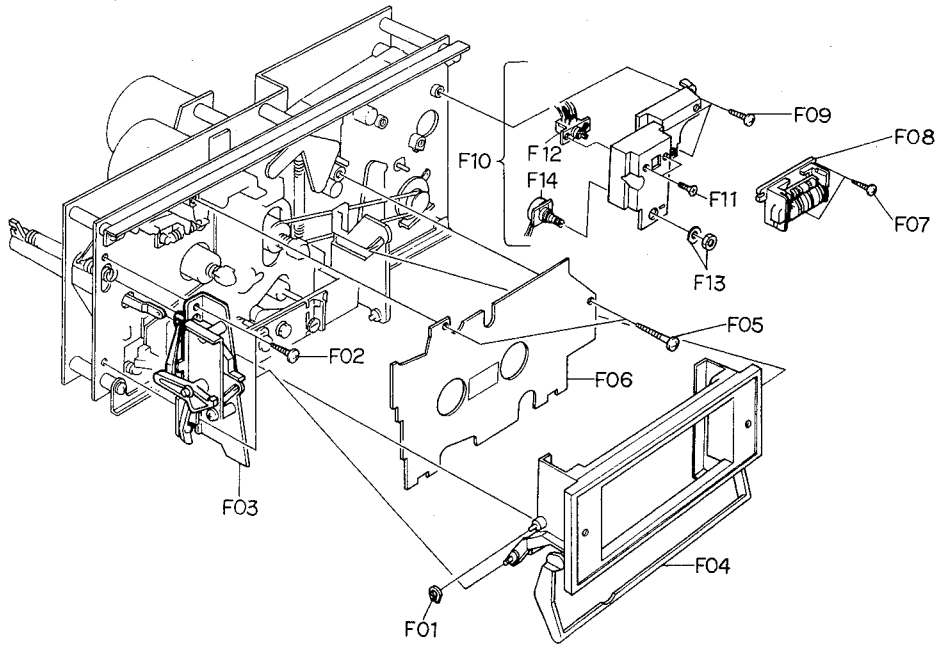

Fig. 3.7
Refer to Fig. 3.7.
- (1) Refer to Fig. 3.7. Remove Cassette Case Ass'y referring to item 3.20.
- (2) Remove F01, then disassemble F02 (Head Mount Base Ass'y).